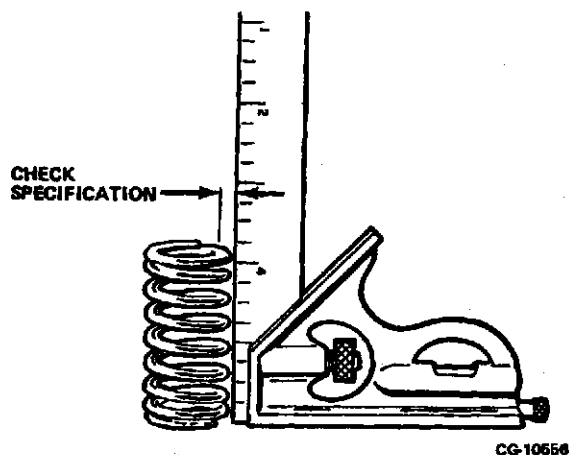

Figure 4.53. Checking Valve Spring Squareness
2. Spring ends must be flat and square to prevent lateral loads on valve stem. Refer to Figure 4.53.